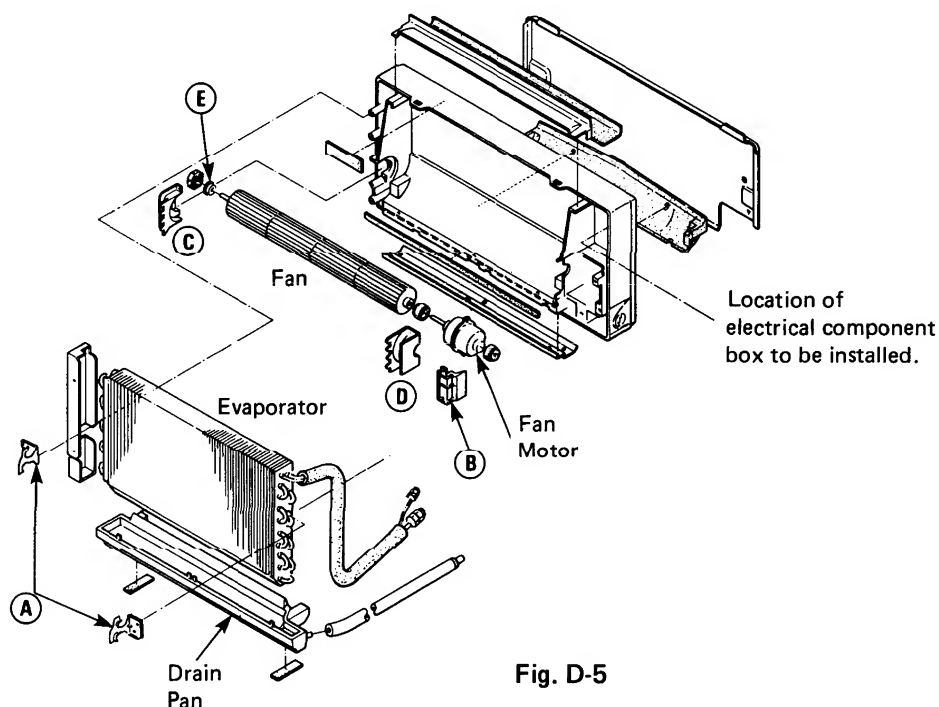

Fig. D-5
- 2) Loosen the fixing screws of the evaporator mounting plates (A) and fan motor mounting plate (B), and remove them respectively. Fig. D-5.
- 3) Withdraw the Bearing Ass'y (E) retaining the left side of the fan, by hand, then pull the fan to the left and withdraw it from the motor shaft. Fig. D-5.